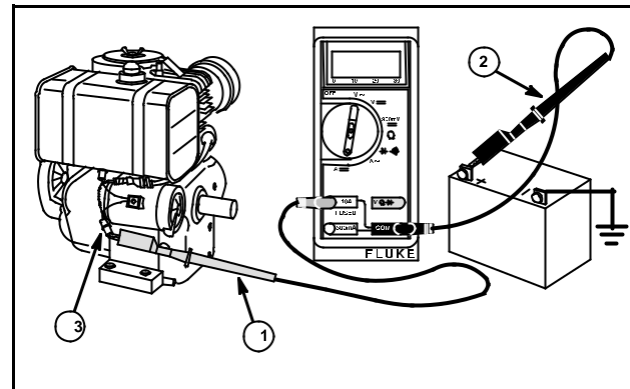

Fig. 32
1. Insert RED test lead (1) into 10 A receptacle in meter.
2. Insert BLACK test lead (2) into COM receptacle in meter.
4. Attach RED test lead clip to DC output terminal on the red output connector on the regulator-rectifier (3), Fig. 32.